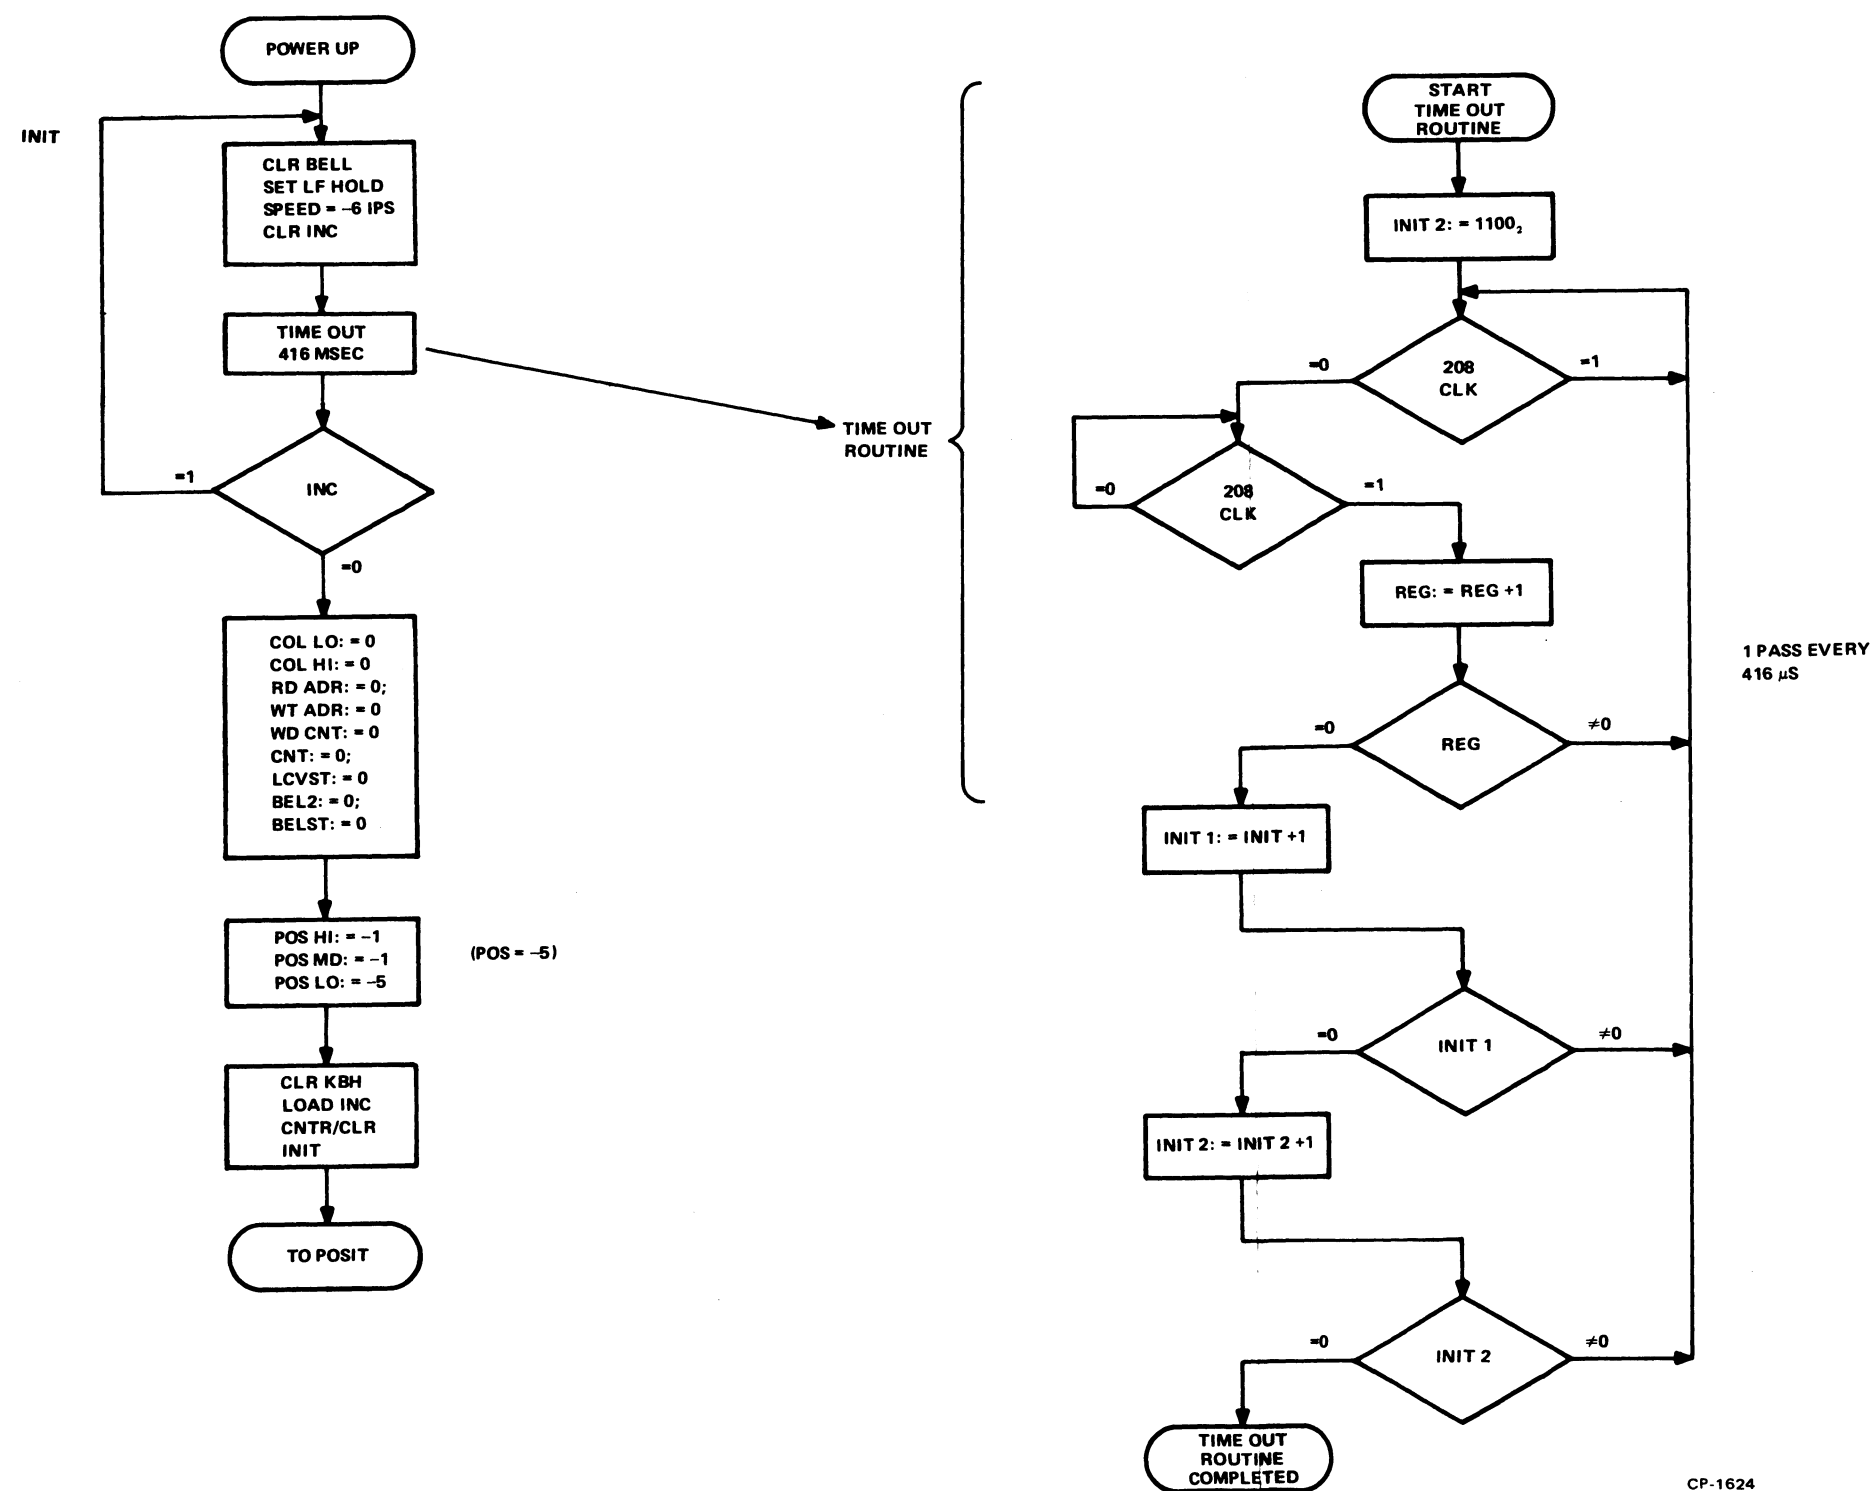

Figure 4-2 INIT Routine
The DECwriter power-up circuit holds the address register (AR) at zero and inhibits the system clock until dc power is up (within 300 to 700 ms). At the end of this period, the AR is left at zero and the first instruction is executed. This instruction tests the INIT and if set, causes the program to enter the INIT routine (Figure 4-2).